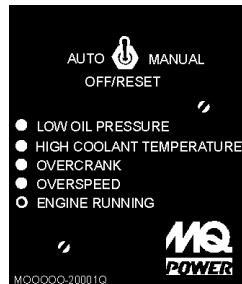

Figure 50. MPEC Engine Running Status LED
8. After engine starts, verify that the "Engine Running" status LED (Figure 50) on the Microprocessor Engine Control Module (MPEC) display is "ON" (lit).